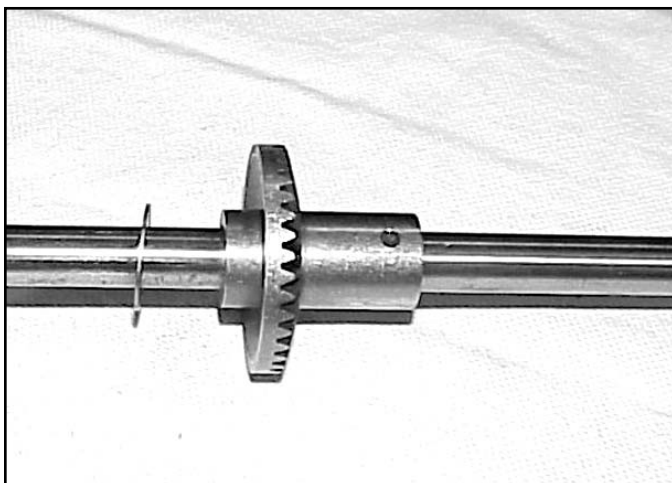

Fig 053
2. Install the trust washer on the side of the gear with the shorter hub, away from the gear teeth (Fig. 053).